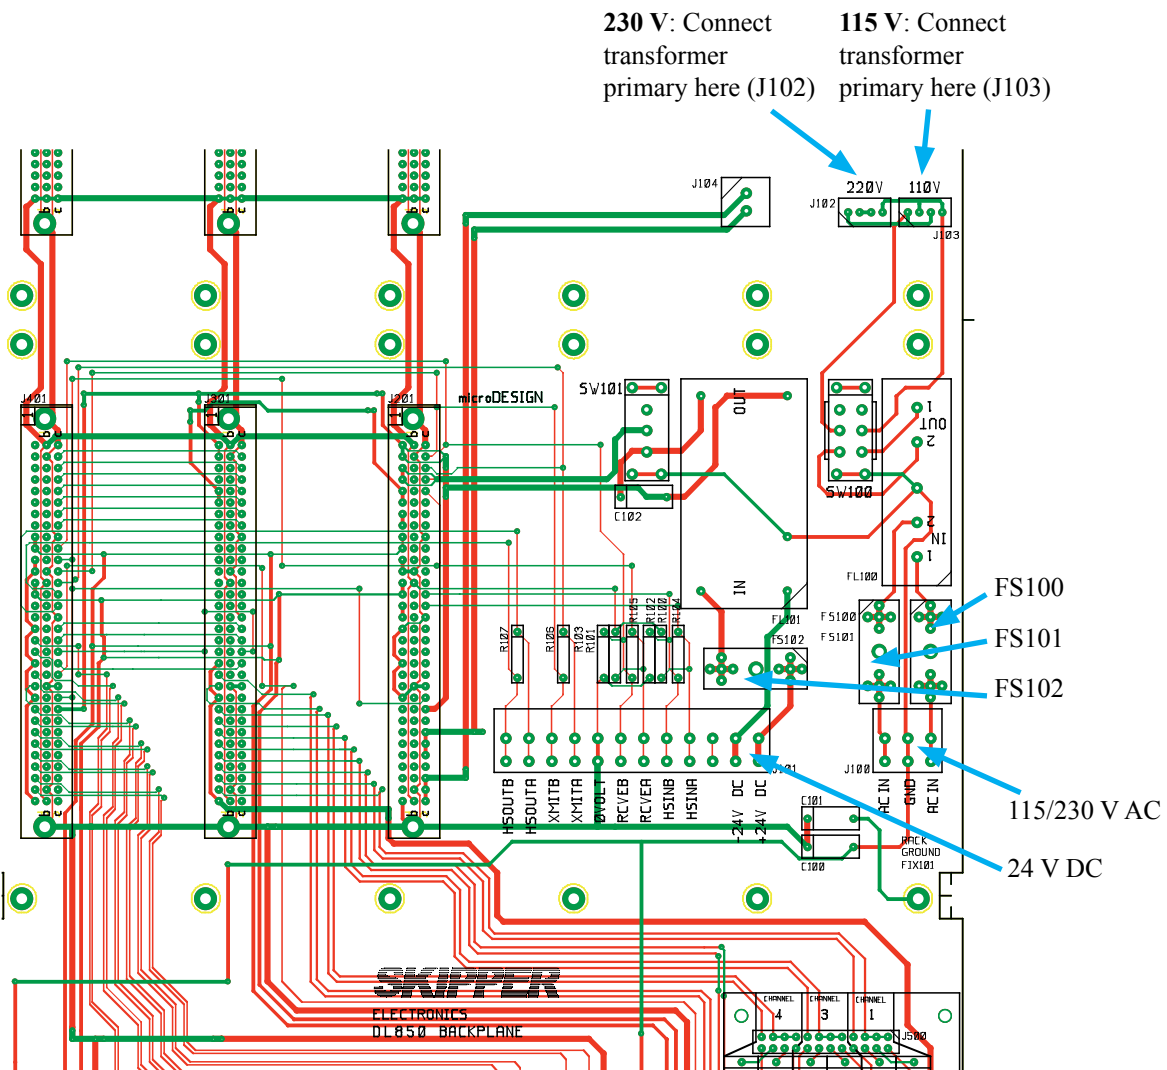

Fig. 10.8. 115/230 V selection on Transceiver unit backplane
- Fig. 10.8. 115/230 V selection on backplane inside Transceiver Unit. See “115/230 V selection on backplane inside Transceiver Unit” on page 75.
If the AC power system is 115 V, the Transceiver unit may be prepared for 115 V AC by re-connecting the connectors J102, J103 as shown in figure 10.8.